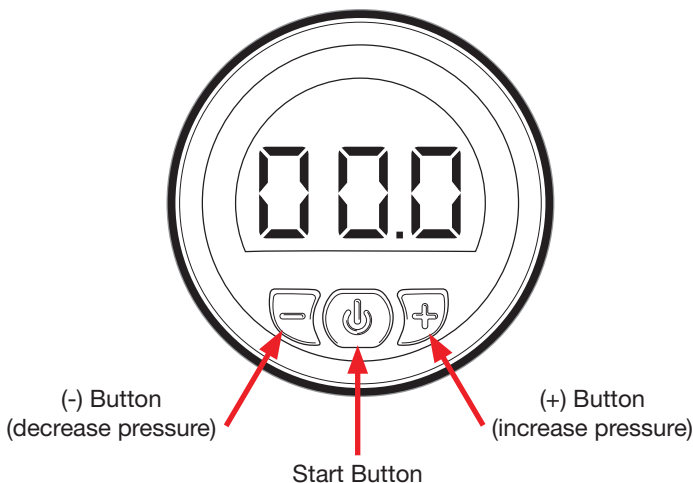

Fig. 2
7. Use the (+) and (-) buttons to select the desired inflation pressure (Fig. 2).
8. Press the start button ON (Fig. 2), the compressor will begin to inflate and automatically shut off at the desired pressure.